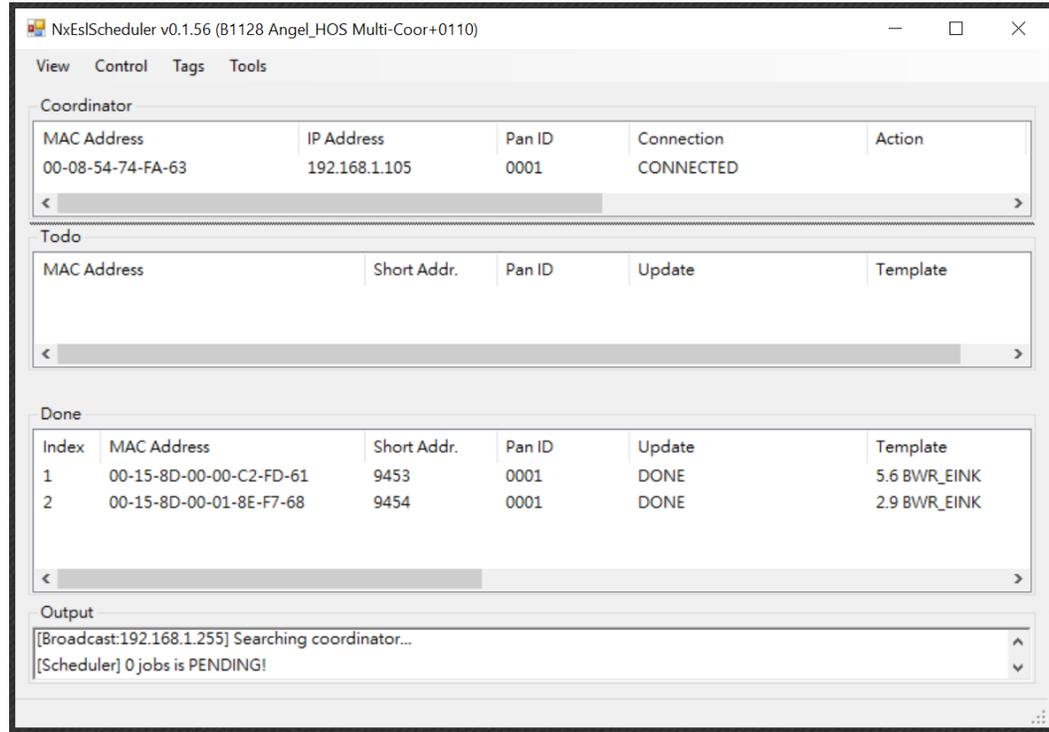

Fig. 14
- When the Join, Update and Transfer functions are complete, the **Done** list shows the e-Tag update results. See Figure 14.